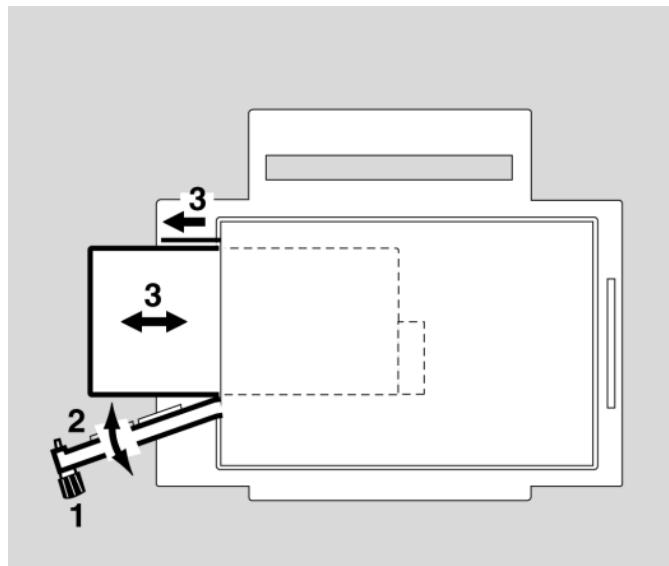

Fig. 1 Removing the replaceable battery
1. Slacken the screw Fig. 1/1 of the battery compartment cover anti-clockwise until the cover can be opened.
2. Fold the cover Fig. 1/2 down.
3. Pull the replaceable battery Fig. 1/3 forward by its tab and withdraw it.